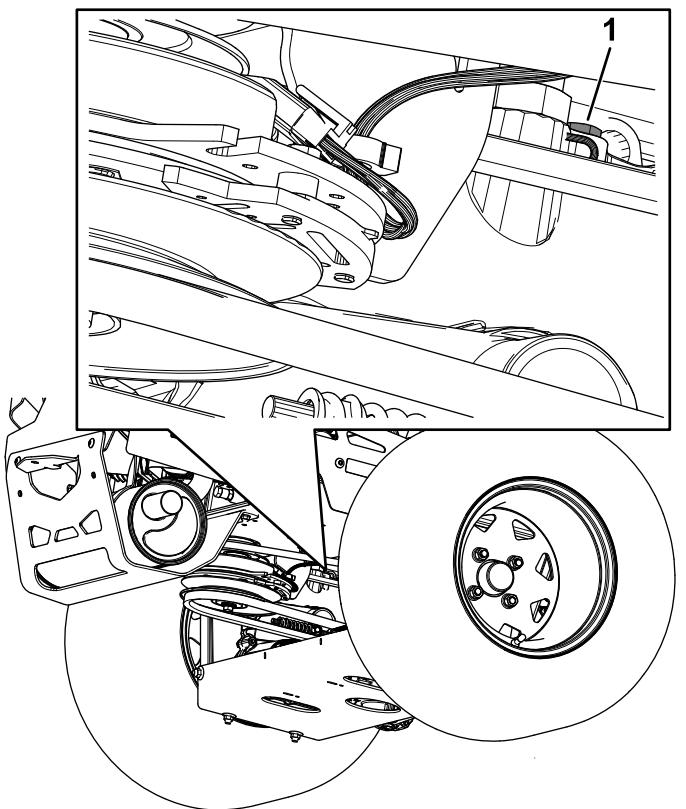

Figure 87
- For ZT 5400 Hydros, use a 7/16-inch wrench to access the vent plug from underneath the machine (Figure 87).